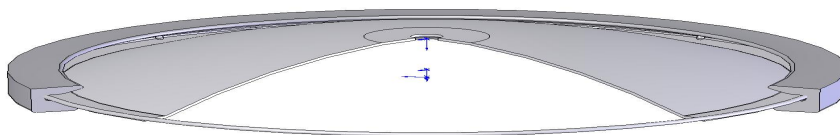

Figure 56
2. Check if the door gasket frame, door gasket plate are installed into the gasket completely as shown in Figure 56.